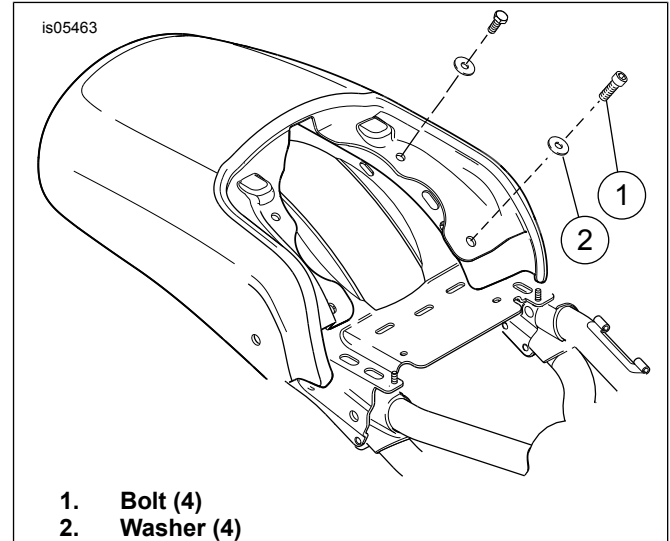

Figure 1. Fender Mounting Bolts
1. See Figure 1. Remove four rear fender mounting bolts (1) and washers (2). If necessary, move the ECM to access the four fender mounting bolts.
6. See Figure 1. Install four fender mounting bolts (1) and washers (2). Tighten to 20–26 N·m (15–19 ft-lbs).